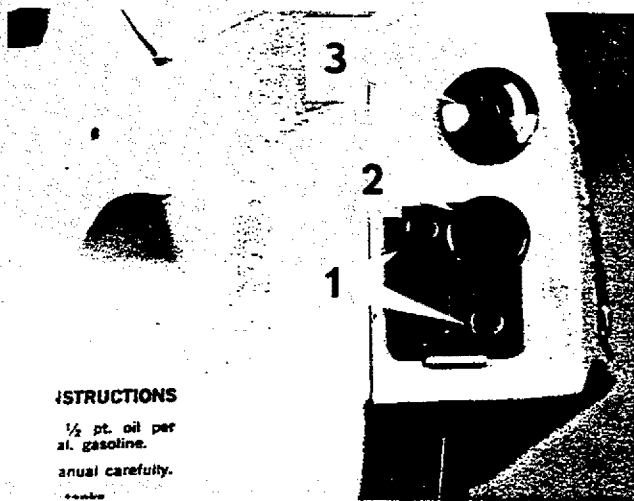
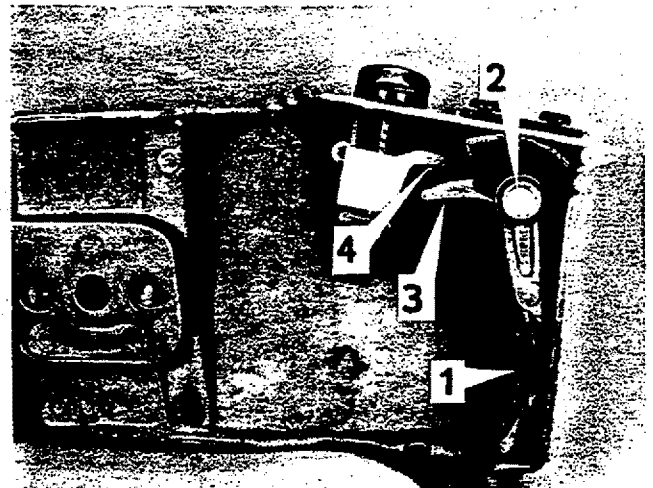
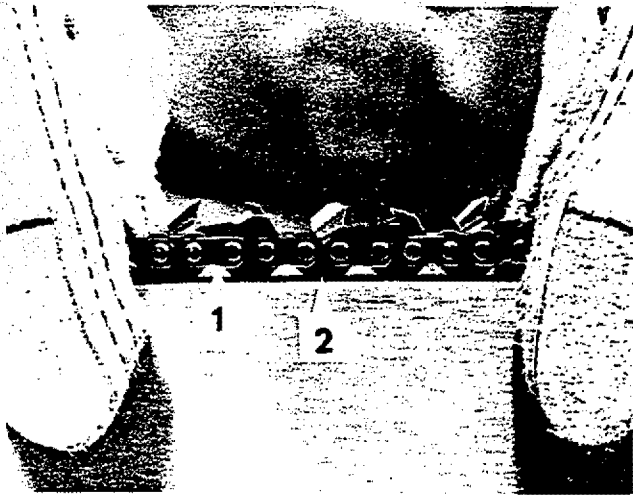

Fig. 15
Fig. 18
Fig. 19
- After sharpening, push the oscillating knob forward and to the right and snap into the locking slot (No. 2, Figure 15).
- Do not loosen screws (No. 1, Figure 15). The two screws hold the aligning plate that has been properly adjusted at the factory.
Before sharpening chain, tension (tighten) to where all tie straps (no. 1, fig. 19) rest on guide bar. Pull chain upward from top of guide bar. The bottom of the drive links should be even with guide bar rails for proper tension (see arrow in Figure 19 page 9). Clean loose wood chips from around sharpening mechanism (see fig. 18). Rotate depth adjustment knob counterclockwise (opposite direction of arrow on knob) until tight (no. 3, fig. 15). Start engine and open throttle to about 1/2 open. Push oscillating knob (no. 2, fig. 15) to the extreme left out of locking slot and pull back on knob. If no sparks are visible coming from the top of the guide bar in front of the bar clamp, release oscillating knob and turn depth adjusting knob (no. 3, fig. 15) one click in direction of arrow. Pull back on oscillating knob again. Repeat until a small shower of sparks can be seen. When sharpening stone contacts chain (indicated by sparks), move the oscillating knob rapidly side to side. This side to side movement sharpens the chain and will also dress the stone with an even wear. Sharpening a dull chain should require about 5 to 10 seconds. Do not oversharpen.
Figure 18, Slide stone carrier (No. 1) out of bar clamp and off pivot pin (No. 2). Clean pivot pin and place two drops of oil on shaft and spread with finger. Replace new stone carrier (No. 1) on pivot pin (No. 2) and slide in position. Be sure that adjusting arm (No. 3) is placed under adjusting arm of depth adjusting block, (No. 4). Replace oscillating knob and stud and tighten securely. (Use 5/16 end wrench to tighten 1/4 turn after finger tight.) Flats located at extreme bottom of oscillating knob will accommodate 5/16 end wrench.
Tighten chain tension until all tie straps (No. 1, Figure 19) rest on guide bar and when pulled at top, the bottom of the drive links will pull up even with guide bar rail (No. 2, Figure 19). Be sure chain has this tension anytime the chain is being sharpened. Under normal conditions your chain should be sharpened once after 2 or 3 tanks of fuel have been consumed.